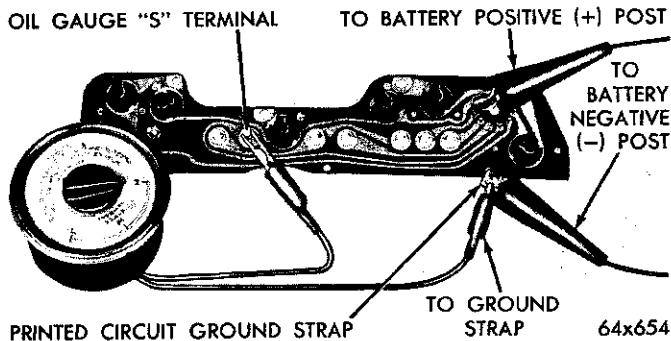

Fig. 7—Testing Oil Gauge Tool C-3826 (Imperial)
4. OIL PRESSURE GAUGE—IMPERIAL (Fig. 7)